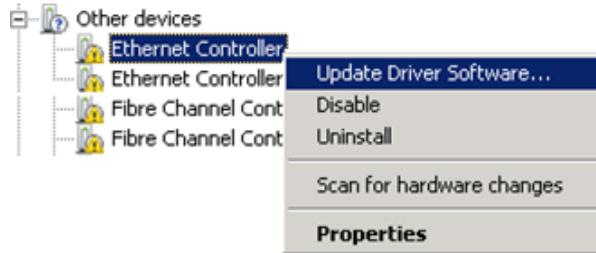

Figure 3-19. Installing an NIC Driver—Windows 2008
- b. To install the driver, right click **Ethernet Controller**, and then click **Update Driver Software** (Figure 3-19).